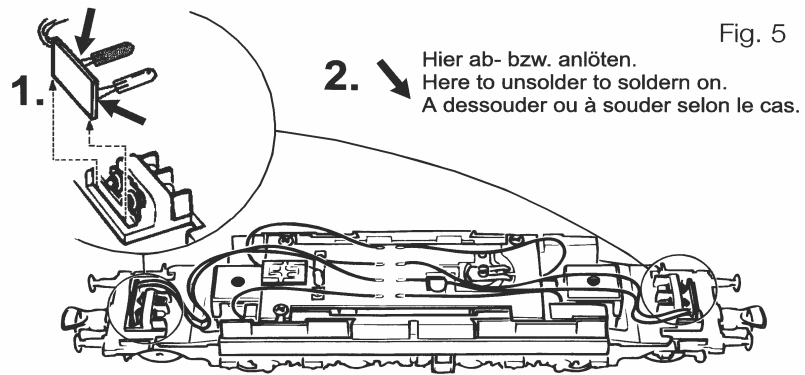

Fig. 5
3. Change of lights: First remove the loco body (fig. 3) and then **change lights** (fig. 5).